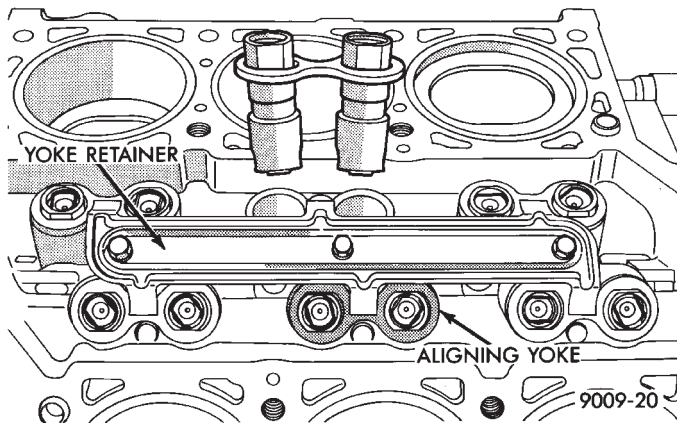

Fig. 26 Roller Tappets Aligning Yoke and Retainer
Roller tappet alignment is maintained by machined flats on tappet body being fitted in pairs into six aligning yokes. The yokes are secured by an alignment yoke retainer (Fig. 26).
(1) Lubricate tappets.
(2) Install tappets in their original positions.
(3) With roller tappets, install aligning yokes with (Fig. 26).
(4) Install yoke retainer and torque screws to 12 N•m (105 in. lbs.) (Fig. 26).
(5) Install cylinder heads. Refer to cylinder head installation of this section for procedure.
(6) Start and operate engine. Warm up to normal operating temperature.